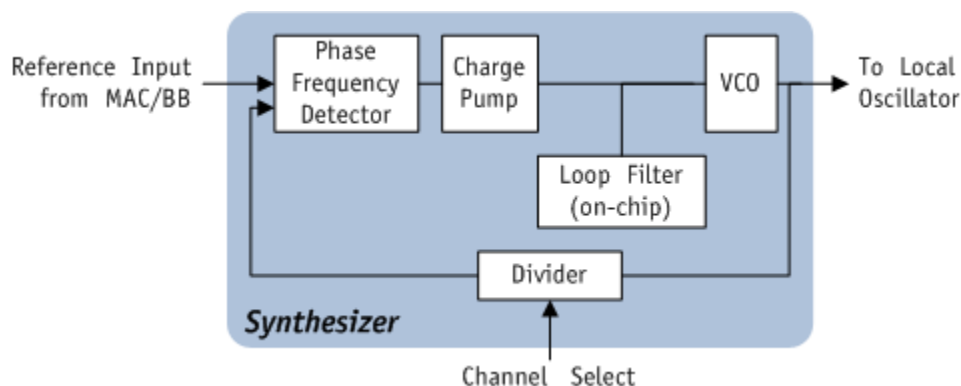

Figure 5-2. Radio Synthesizer Block Diagram
The radio supports one on-chip synthesizer to generate local oscillator (LO) frequencies for the receiver and transmitter mixers. The synthesizer is a fractional -N synthesizer, and its topology is shown in Figure 5-2.